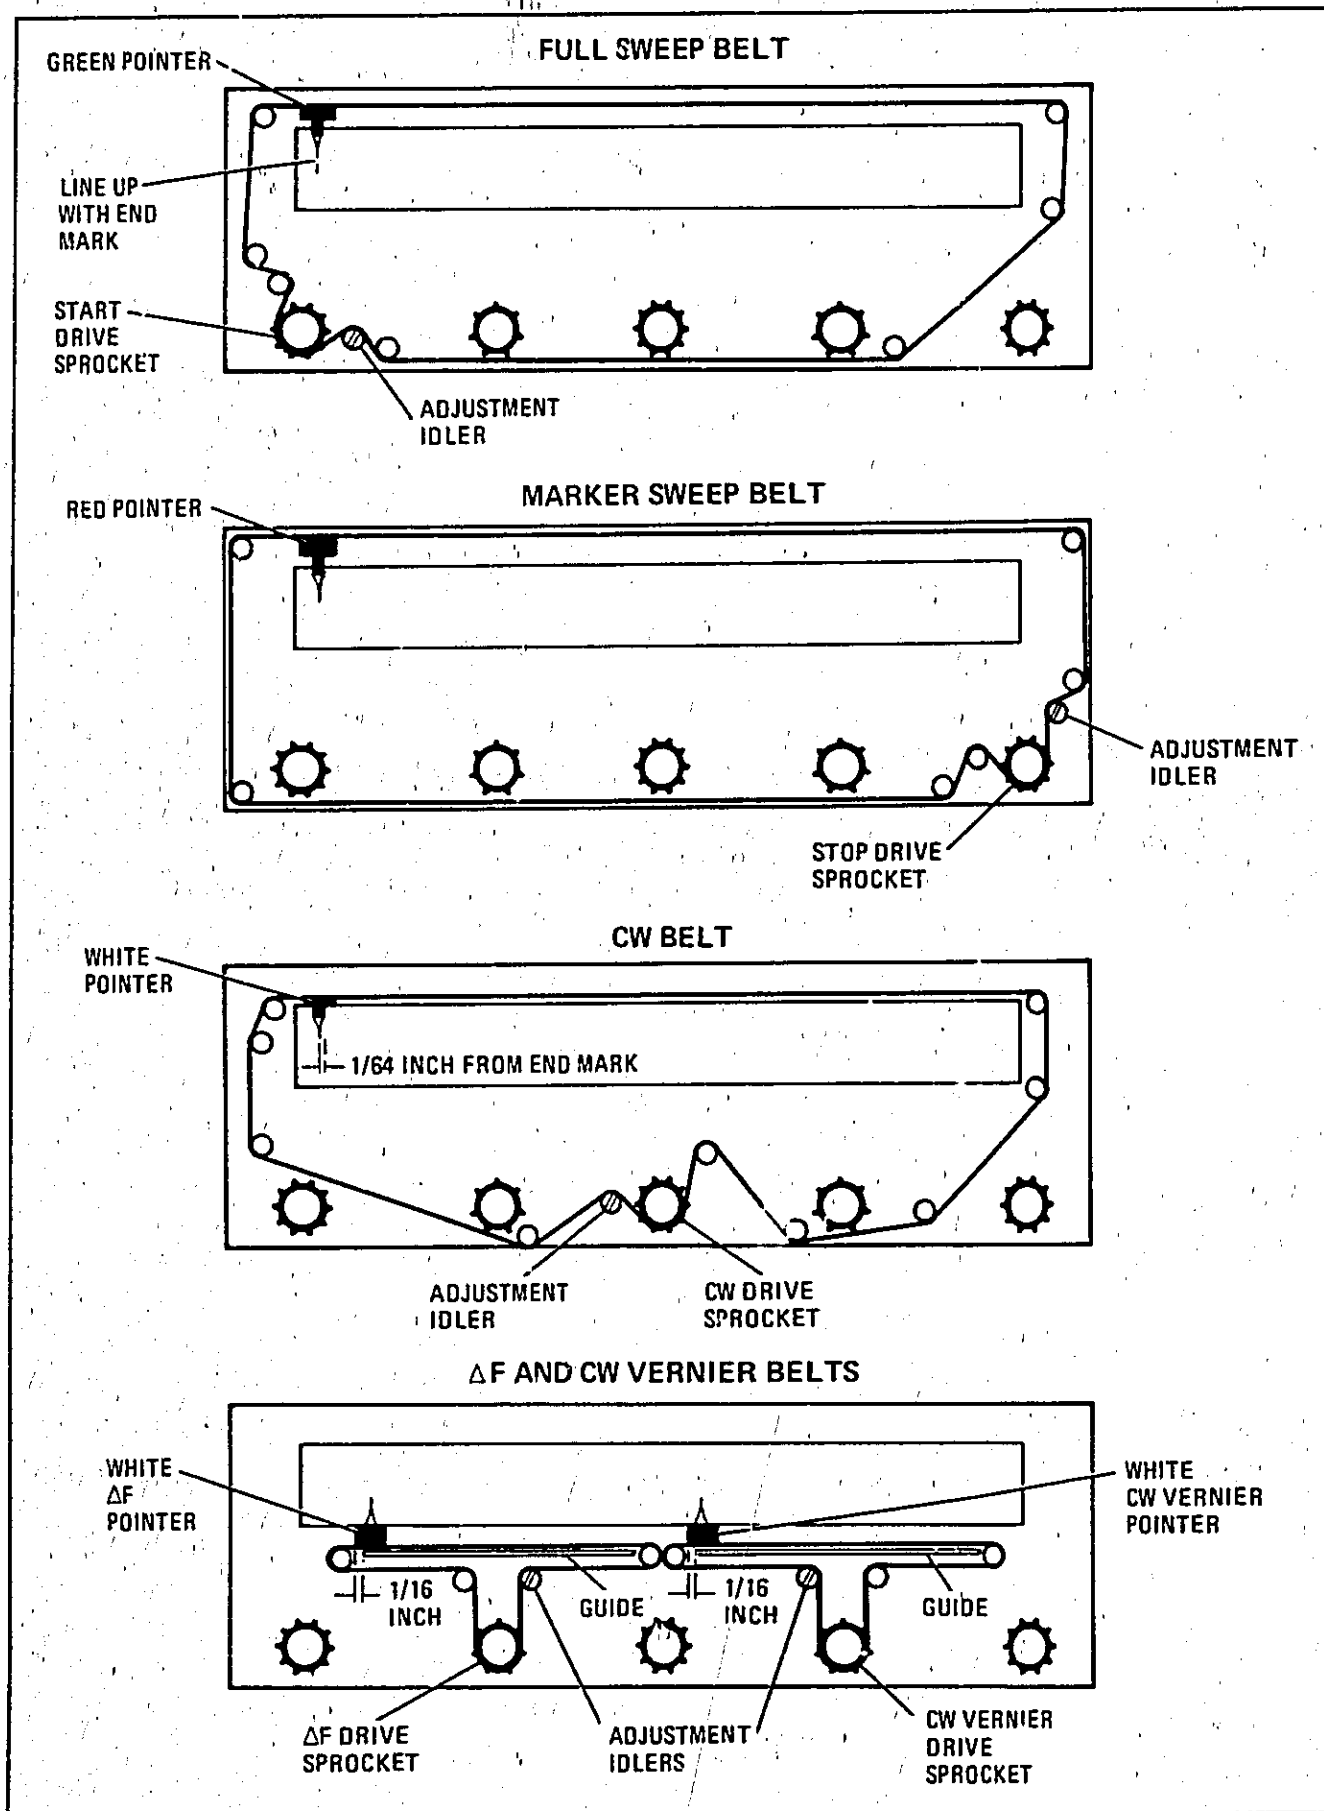

Figure 8-5. Pointer Belt Restringing Diagrams
b. Loosen adjustment idler shown on restringing diagram in Figure 8-5 for belt being replaced.
5. Restring belt as shown in Figure 8-5 and tighten belt with adjustment idler.
2. Restring belt as shown in Figure 8-5 and tighten belt with adjustment idler.